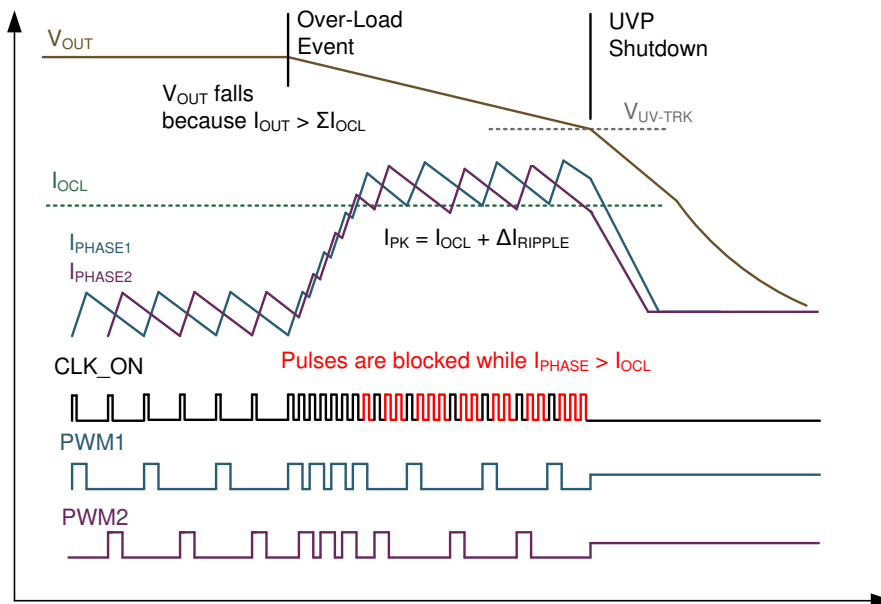

Figure 7-32. Per-phase OCL (2 phase example)
- **Per-phase overcurrent limit (OCL)** is a programmable cycle-by-cycle *valley current* limit for each individual phase current, to protect against inductor saturation. TPS536C7B1 does not pass PWM pulses to phases when their current is above the configured OCL threshold. Other than cycle-by-cycle current limit, no action is taken when the per-phase OCL is engaged. Typically, in the case of a severe overload event, power conversion is disabled when the output voltage reaches the VOUT_UV_FAULT_LIMIT. This is illustrated in Figure 7-32. Program the OCL threshold using the IOUT_OC_FAULT_LIMIT command with the PHASE set to 00h. TPS536C7B1 supports values of 17 A to 130 A per phase.